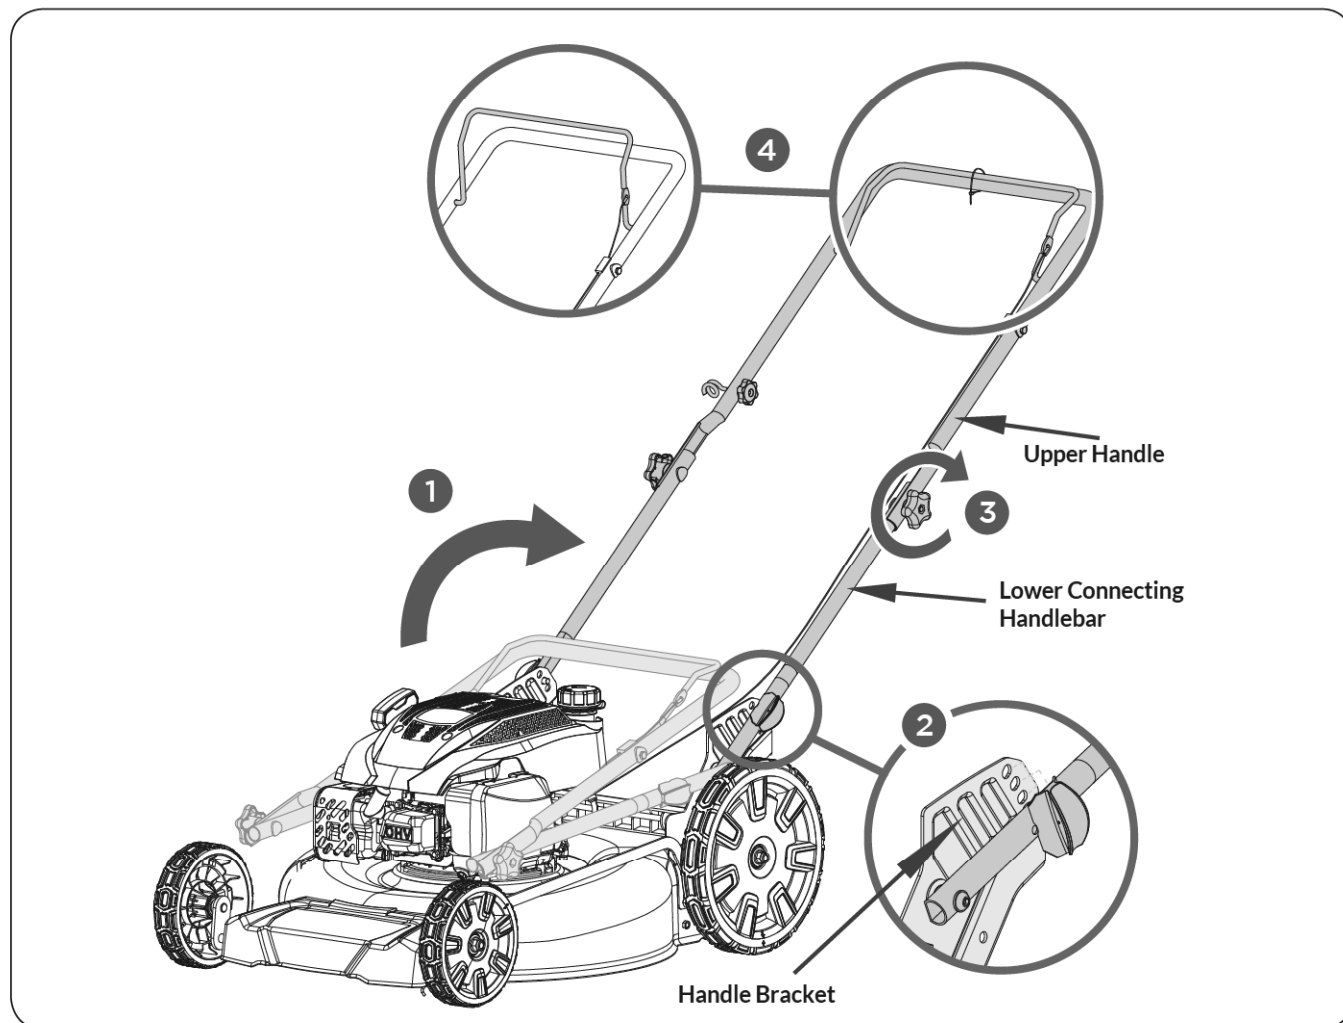

Figure 2
1. Slowly move the folded handlebars back to the working position. (See **Figure 2, illustration 1**)
2. Unlock the knobs, insert the short studs into one of the three holes on the handle bracket according to the handle height, then lock the knobs to secure. (See **Figure 2, illustration 2**)
3. Tighten the wing knobs and bolts that connected the upper handle and the lower connecting handlebars. (See **Figure 2, illustration 3**)
4. Cut the cable tie to release the engine start/stop control lever and the drive control lever. (See **Figure 2, illustration 4**)